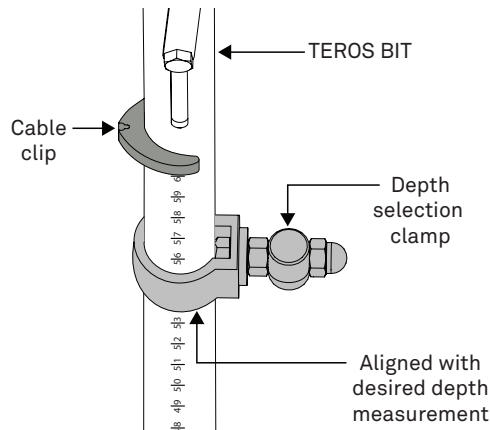

Figure 21 Depth selection clamp
6. Mount the depth selection clamp on the handle or extension rod if it is not already attached (Figure 21).
7. Move the depth selection clamp to the desired depth mark on the rod (Figure 21).